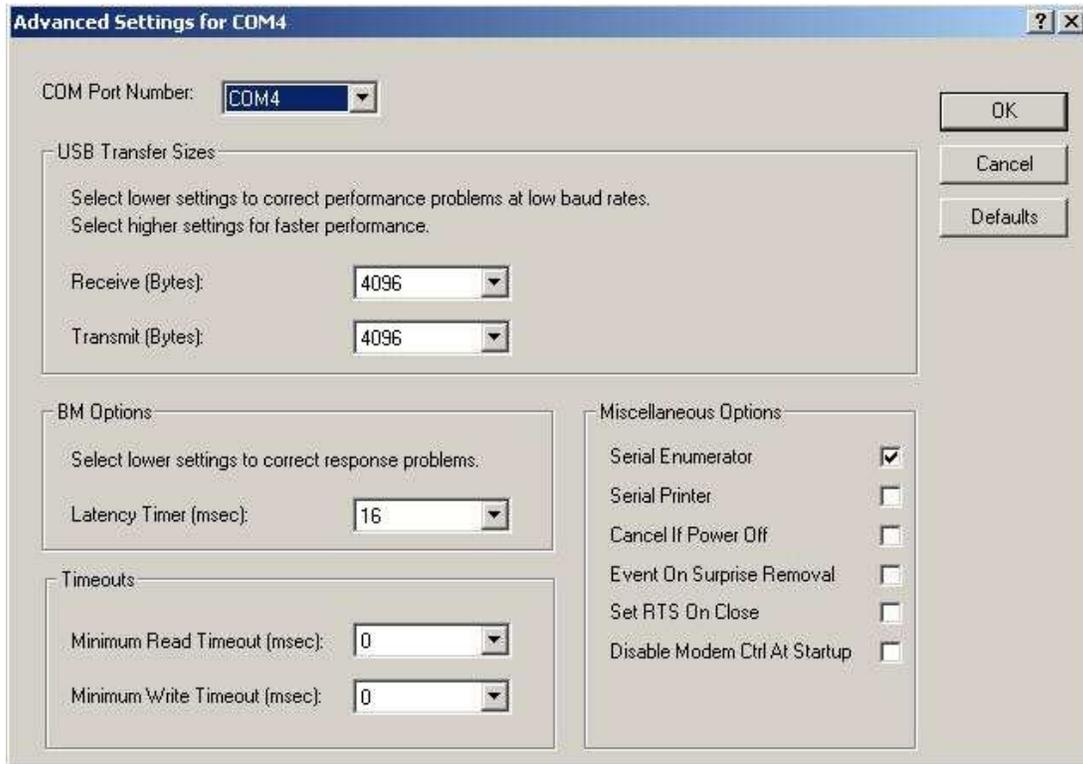

Figure 2: Serial Port Properties, Advanced
3. Select 'Port Settings > Advanced'. A new panel appears. At the top, there is a selector box for the COM port assignment (figure 2).